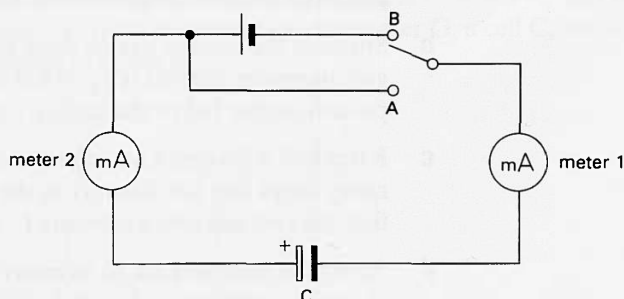

Figure B77
**29(R)** This question is about the circuit in figure B77.